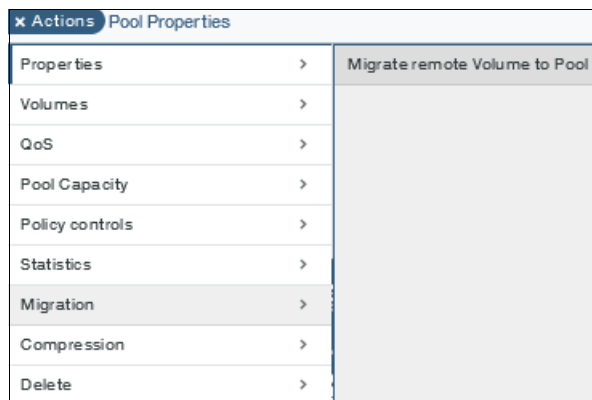

Figure 4-9 Selecting Pool for Migration in IBM FlashSystem A9000R
1. In the Hyper-Scale Manager GUI, select the pool to use for the migrated volumes and then select **Actions** → **Migration** → **Migrate remote volume to Pool**, as shown in Figure 4-9.